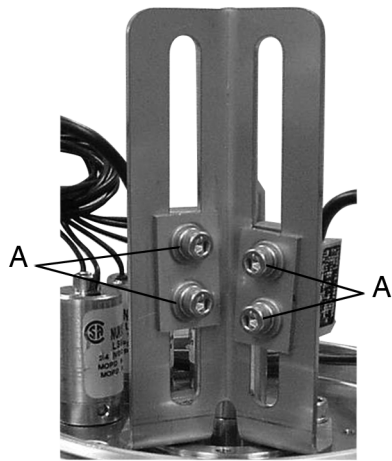

Figure 24: Switch Adjustment
6. To disassemble the proximity or micro-switch mounts, disconnect the wires, then unscrew the round-head screws holding the switch to the switch blocks. See Figure 24 on page 23.
1. Raise the stem to open, then loosen the cap screws holding the switch blocks (Figure 24, item A) with a 9/64" allen wrench and slide the switches to set the distance between the switches and the stem shaft at 0.040" (1 mm). If using a micro-switch, place a 0.020" feeler gauge between the roller and the small diameter of the stem. Adjust the switch toward the stem until a "click" is heard.
2. Hand-tighten the cap screws (Figure 24, item A) to hold the switch position.